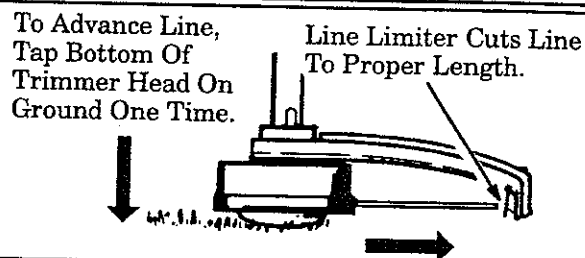

Figure 13
- **Always keep the shield in place when the tool is being operated. Figure 13 .**
3. Tap the bottom of the trimmer head lightly on the ground one time. See Figure 13 . Approximately 2 inches of line will be advanced with each tap.